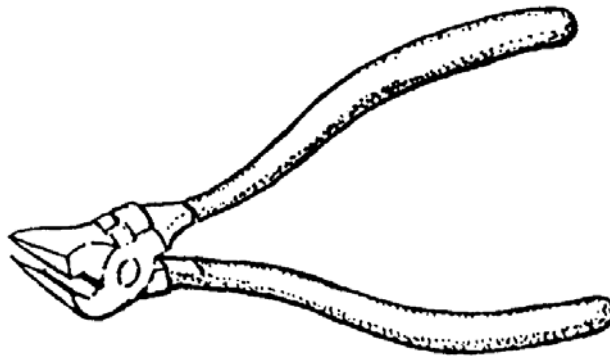

Figure A-9. Flush Cutters
(7) Flush cutters (Figure A-9) are used for close cutting of component leads. The pointed ends make them especially useful in tight areas.